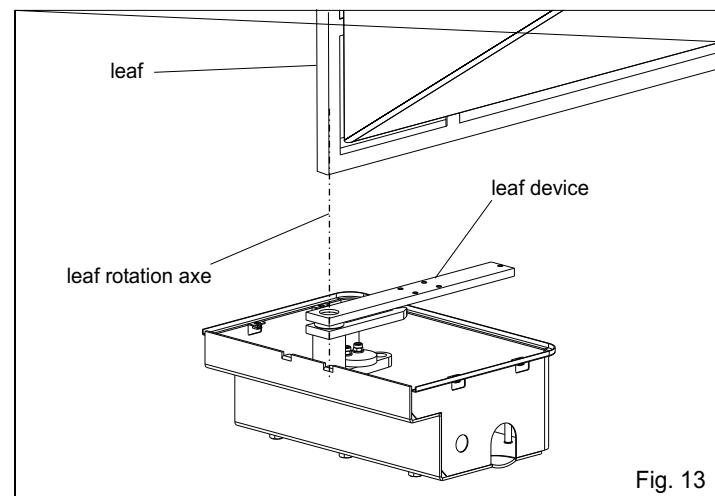

Fig. 13
**3.1.** Position the leaf of the gate on the leaf device making reference to the rotation axe of the leaf hinge (Fig. 13);